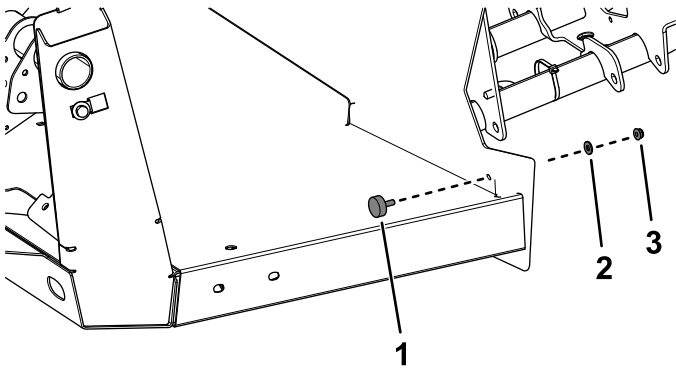

Figure 24
5. Install a rubber bumper using a washer and flange nut (1/4 inch) on each side (Figure 24).